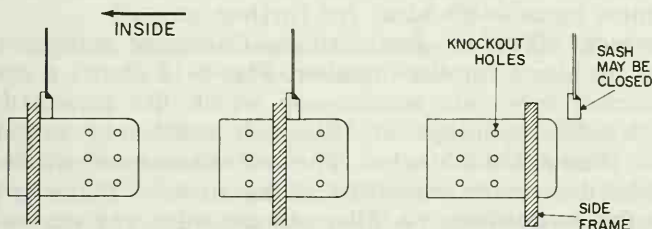

Fig. 8-17. Three types of window mountings.
In the installation shown, the side angle brackets are first screwed into the recesses of the sash channels on each side of the window frame. Now the cabinet is slid off the unit. The center line of the cabinet is lined up with the center line marked off on the sill, and the cabinet is positioned for (1) inside flush mounting, (2) outside flush mounting, or (3) middle mounting (Fig. 8-17). Most cabinets are provided with knockout holes for alternate mountings, and button plugs to seal the unused holes.